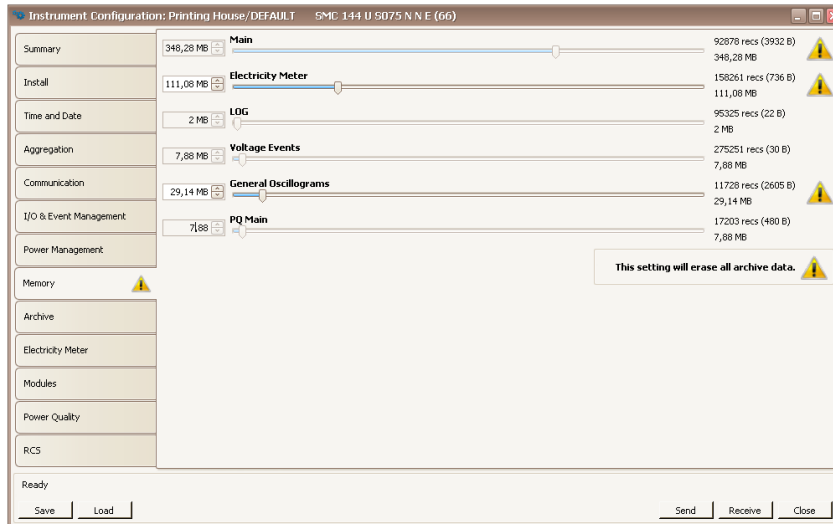

Figure 15: ENVIS.Daq - memory partitioning for each separate archive/data type.
2.3.6 Memory Assignments (fig. 15)